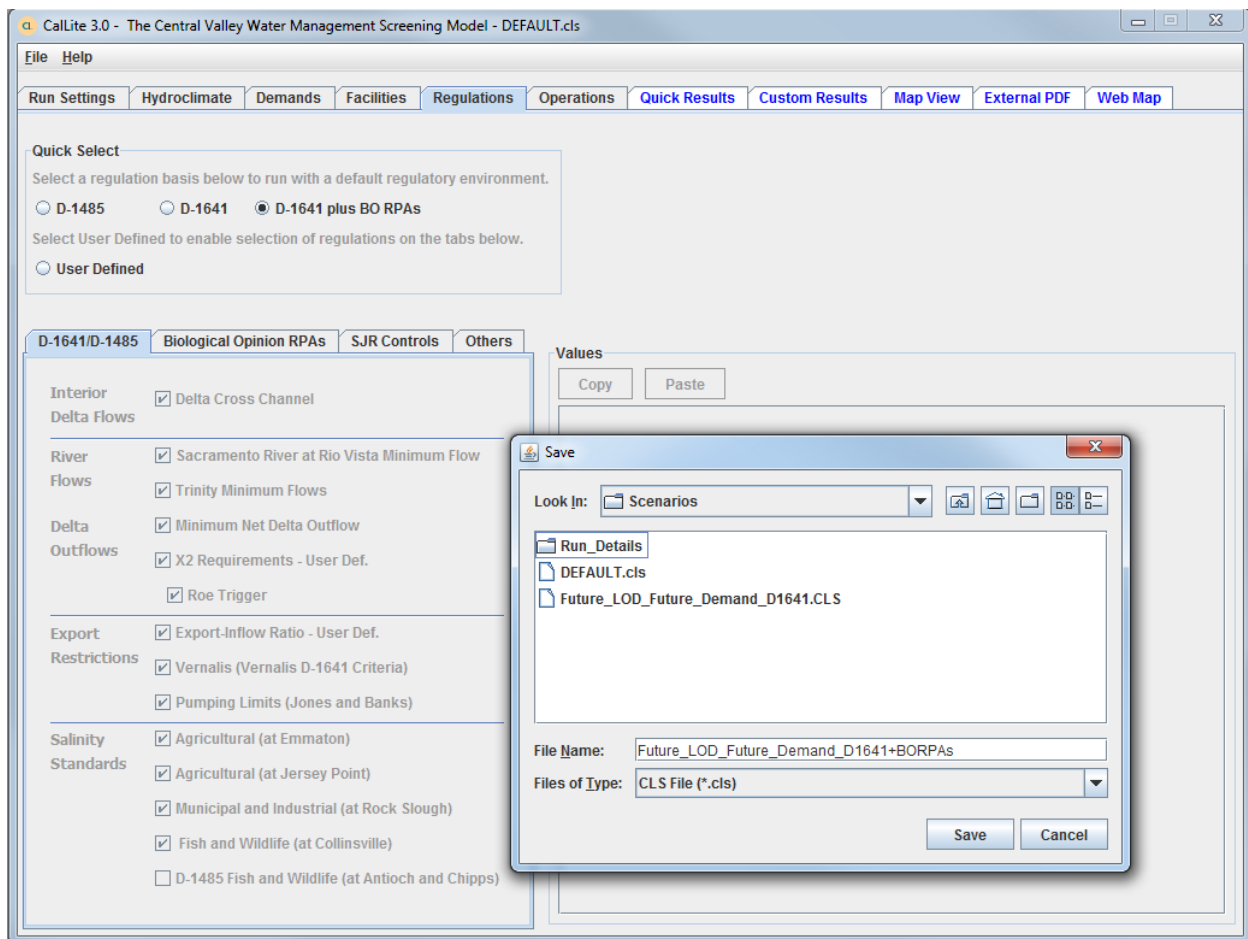

Figure 5-10. D-1641 plus Biological Opinion RPAs regulations are selected and the *Future_LOD_Future_Demand_D1641+BORPAs* scenario is ready to save.
Create a second scenario that adds the Biological Opinion regulatory constraints to the scenario on top of the D-1641 regulations. Do this by selecting the *D-1641 plus BO RPAs* from the *Quick Select* box in the Regulations dashboard. Once the change is done, the scenario can be saved as *Future_LOD_Future_Demand_D1641+BO.CLS*. Simulate the model to generate the *Future_LOD_Future_Demand_D1641+BO_DV.DSS* output file. Figure 5-10 shows the D-1641 plus Biological Opinion (BO) RPAs checked on.